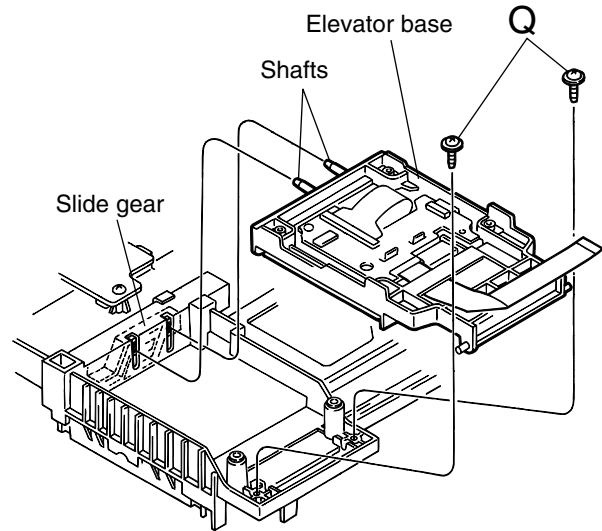

Fig.18
■ Removing the elevator base (See Fig.18 and 19)